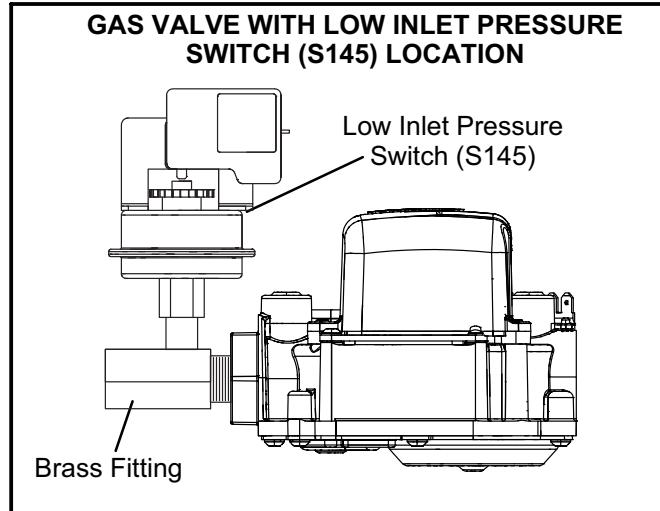

FIGURE 2
When testing supply gas pressure, use the 1/8" N.P.T. supply line tap located on the gas valve to facilitate test gauge connection. See figure 2. Check gas line pressure with unit firing at maximum rate. Low pressure may result in erratic operation or underfire. High pressure can result in permanent damage to gas valve or overfire.
- Connect test gauge to manifold pressure tap (figure 2) on gas valve.
- If necessary, make adjustments. Figure 2 shows location of adjustment screw.